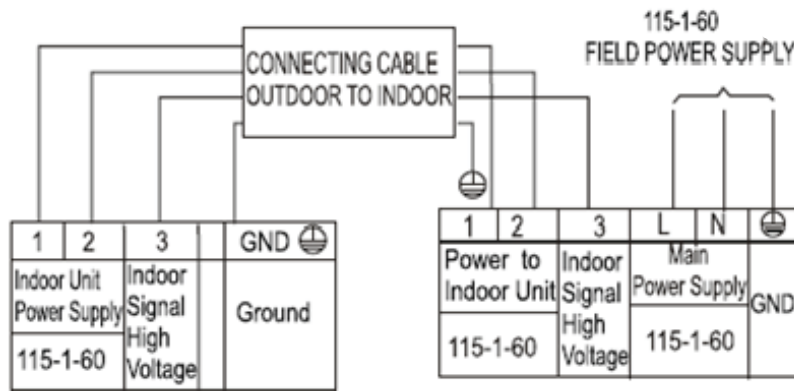

Fig. 1 — Connection Diagram - 12K (115V)
2. All connections between indoor and outdoor units must be as shown in figures 1 - 3. The connections are sensitive to polarity and will result in a fault code.